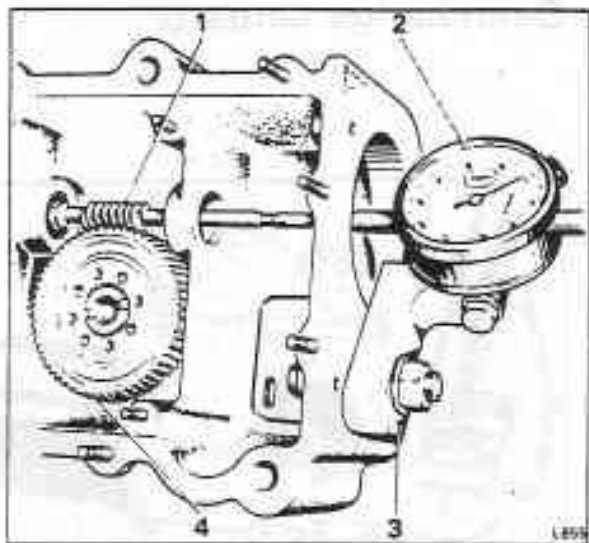

Fig. T5-2 Checking wormshaft end-float
6. Adjust the end-float of the wormshaft to between 0.005 mm and 0.012 mm (0.002 in and 0.005 in) using a suitable washer. Fit the circlip. Check the end-float on the end of the shaft using a dial indicator gauge (see fig. T5-2).